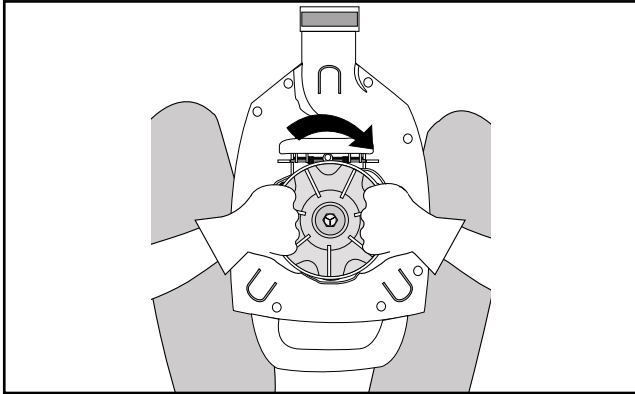
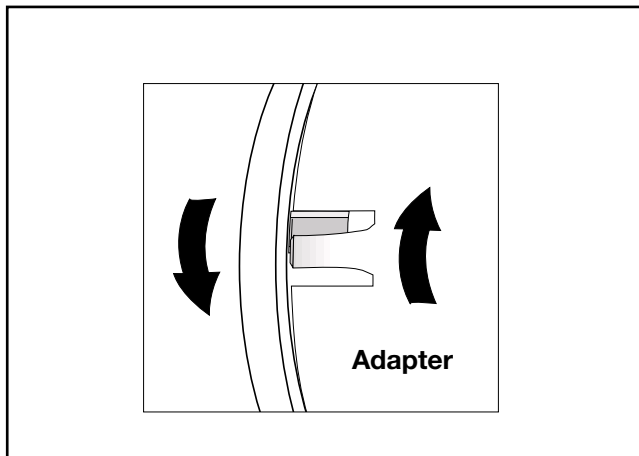
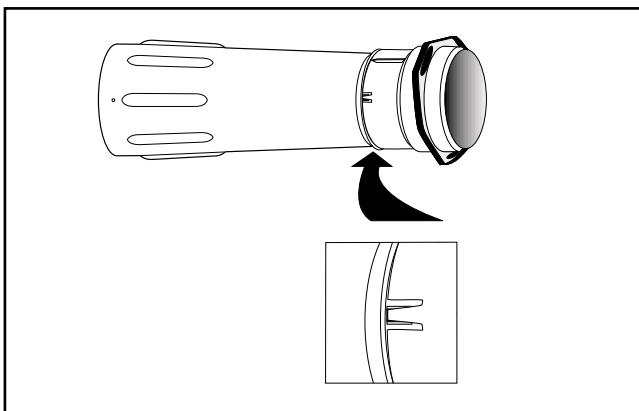

Fig. 9
Fig. 10
Fig. 11
5. **Grasping the upper vac tube firmly with both hands** (Fig. 9), turn the vac tube **clockwise** (Fig. 10) until the tabs of the adapter (2) snap into the square indentations of the upper vac tube (2) (Fig. 11).